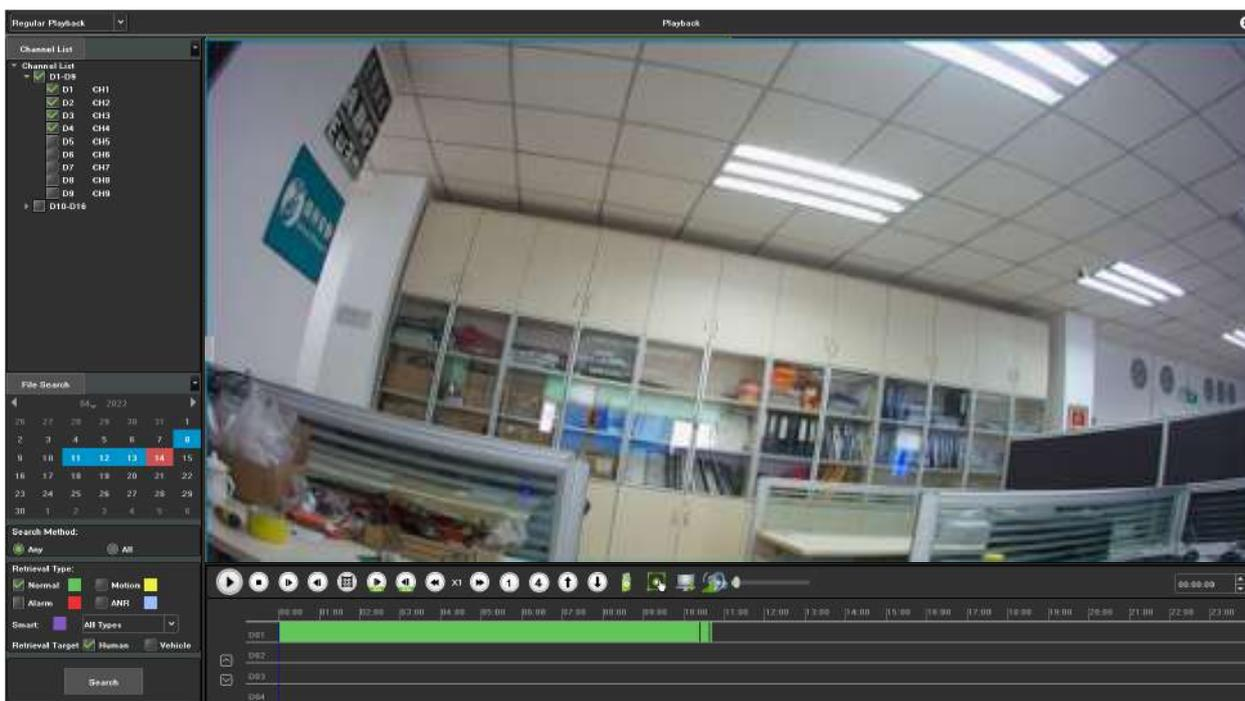

Figure 4.3 Video Playback
3. Click the  button to start playback, as shown in Figure 4.3.